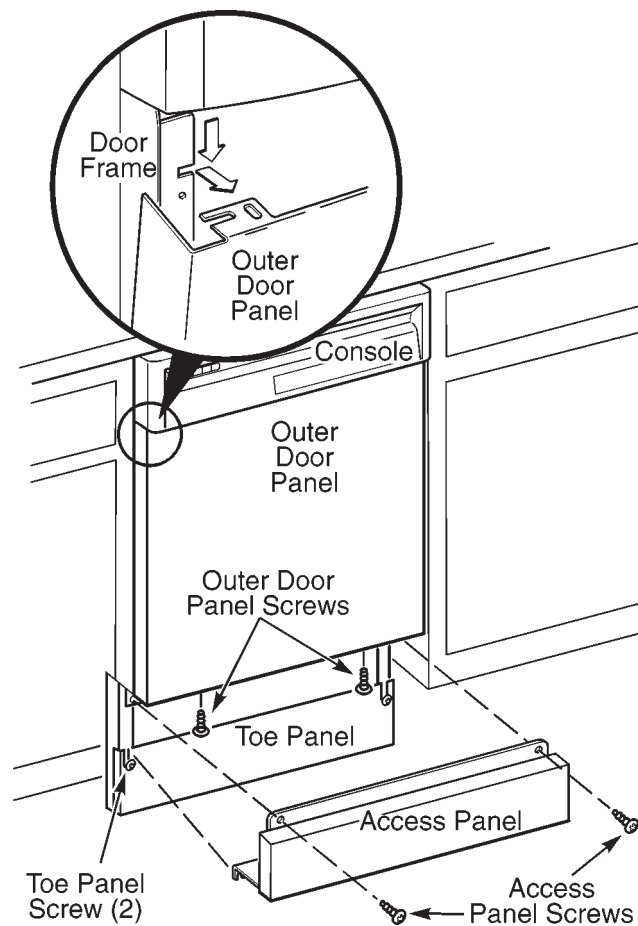

Fig. 2-1
1. Loosen but do not remove the two (2) toe panel screws below the access panel. Remove and set aside the two (2) screws above the access panel. (Fig. 2-1)
2. Remove the access panel assembly by sliding it upward to clear the loosened screws. (Fig. 2-1)
3. Remove the two (2) screws from the bottom of the outer door panel. (Fig. 2-1)
4. Pull the bottom of the outer door panel outward and slide it down approximately  $\frac{1}{4}$ " to  $\frac{1}{2}$ ". The panel will then be free for removal. (Fig. 2-1, inset)